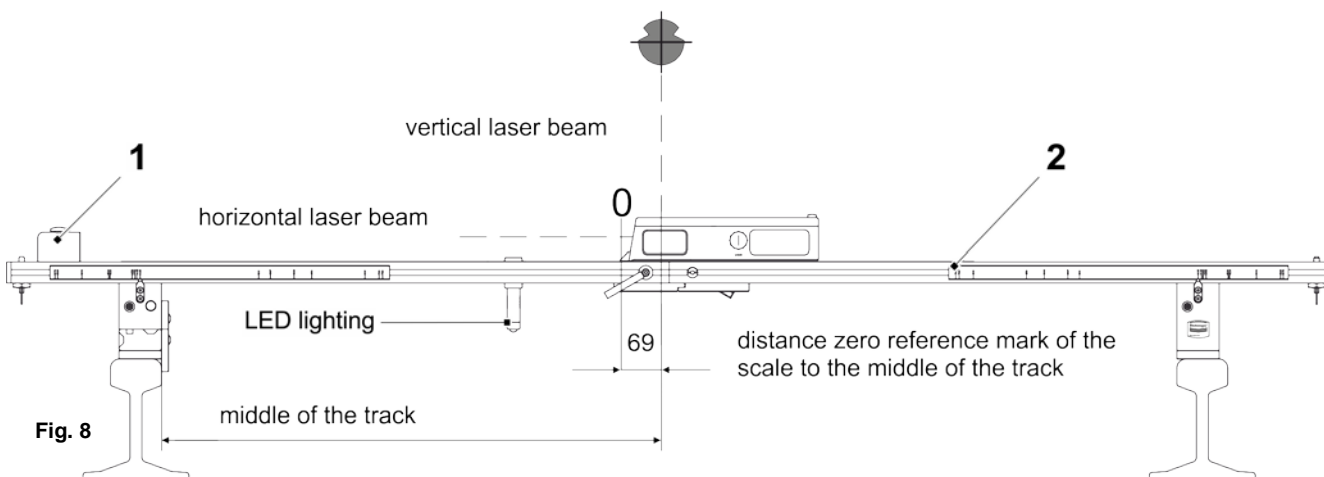

Fig. 8
- Place the measuring bar (2, Fig. 8) perpendicularly above the track with the insulated stop onto a rail.
- Press and hold the brake and then slide the laser beam reflector (1, Fig. 8) along the measuring bar up to the red stop on the measuring bar slot.
- To ensure that the laser beam reaches the side pole unobstructed, remove the laser beam reflector (1, Fig. 8) from the measuring bar if required. The laser beam reflector can be slid into the guide slots of the wide measuring bar foot and stored there.